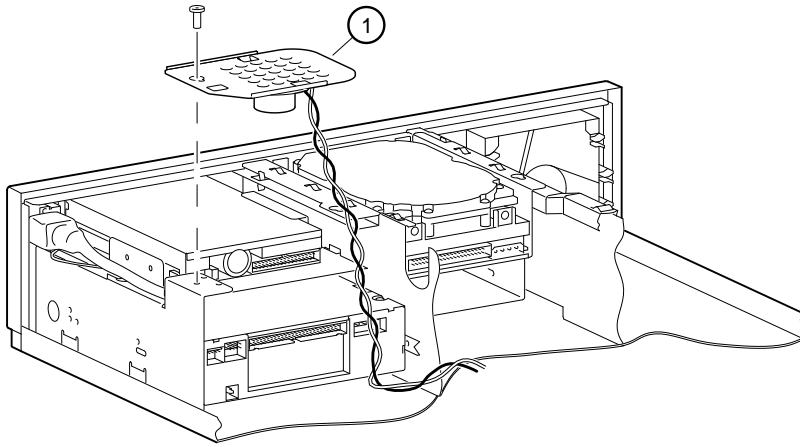

Figure 3-20. Removing the Speaker
5. Loosen the screw so that you can remove the speaker ①, as Figure 3-20 shows.